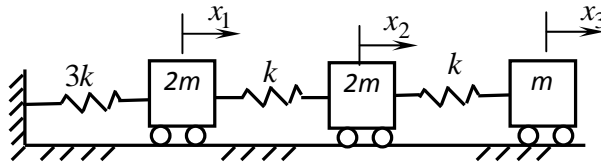

Fig. 3
17 Determine the influence coefficients of the triple pendulum shown in Fig.3.
- 19 Determine the natural frequencies of the system shown in Fig. 3. Use Holzer's method
20 Using matrix iteration method, determine first two natural frequencies of the system shown in Fig. 3